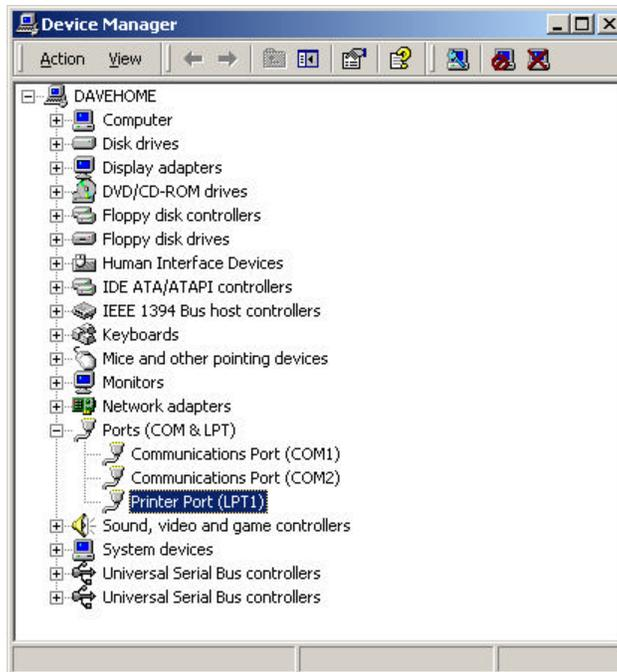

Figure 7: Locating the Printer Port in Device Manager
4. Expand the *Ports* section (see figure 7)